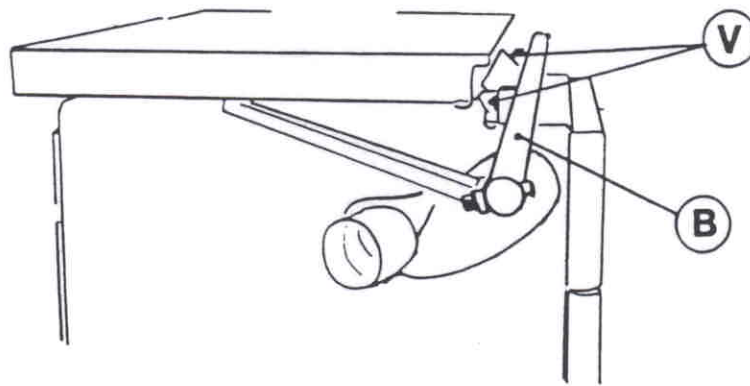

Fig.13
Fasten rod (B) to table with screws (V fig.13)
Fit table (T) to rod (B) by holding it overturned to avoid the contact with screws (V fig.13).